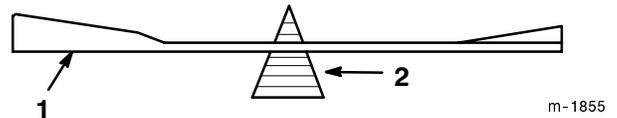
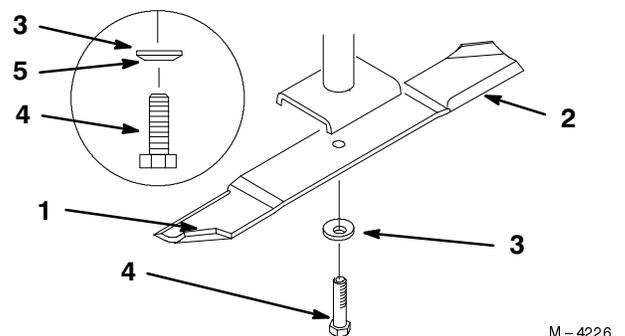

Figure 22
Figure 23
1. Hold the blade end using a rag or thickly-padded glove. Remove the blade bolt, spring disk and blade from the spindle shaft (Fig. 23).
2. Check the balance of the blade by putting it on a blade balancer (Fig. 22). If the blade stays in a horizontal position, the blade is balanced and can be used. If the blade is not balanced, file some metal off the end of the sail area only (Fig. 23). Repeat this procedure until the blade is balanced.
1. Install the blade onto the spindle shaft (Fig. 23).
2. Install the spring disk and blade bolt (Fig. 23). **Torque the blade bolt to 85-110 ft-lb (115-150 N•m).**